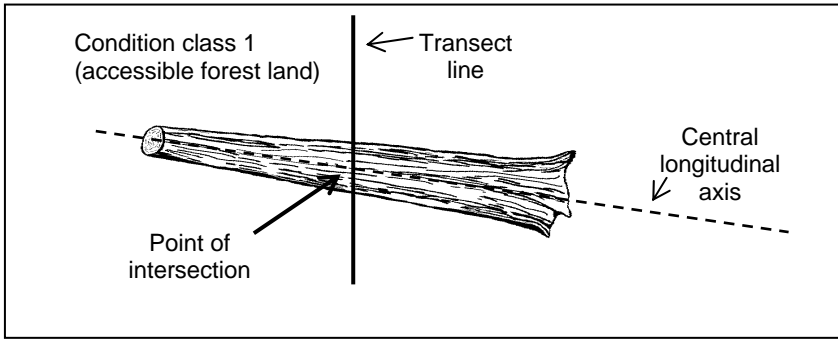

Figure 25-3. Tally rules for CWD.
1. Coarse woody debris (CWD) is sampled in accessible forest land conditions only. Tally a piece if its central longitudinal axis intersects the transect, and the condition class is accessible forest land at the point of intersection (fig. 25-3). The entire piece is assigned to this condition.